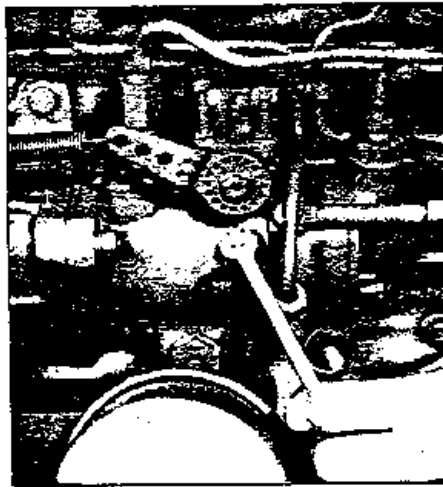

Fig. C-4
2. Slacken the vent screw on the hydraulic head locking screw on the side of the fuel injection pump body (see Fig. C-4).